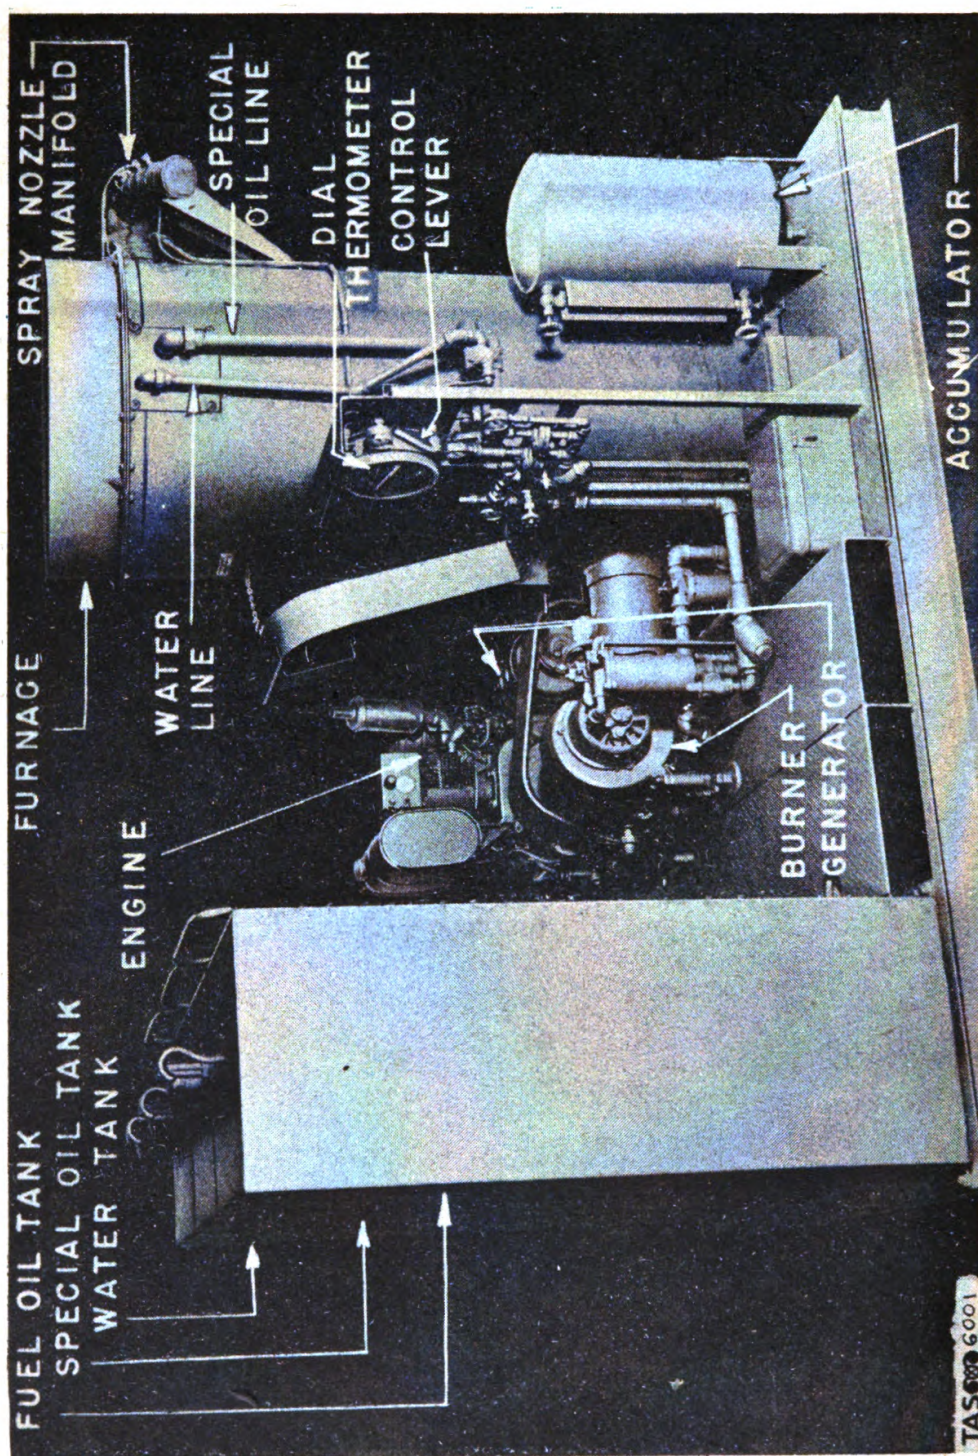

Fig. 1. The Mechanical Smoke Generator, M1 (100-Gallon).
1. PURPOSE AND SCOPE. This manual describes the mechanical smoke generator, M1, (100-gallon), its operation, maintenance, and repair by using personnel or by the smoke generator company. (See fig. 1.)